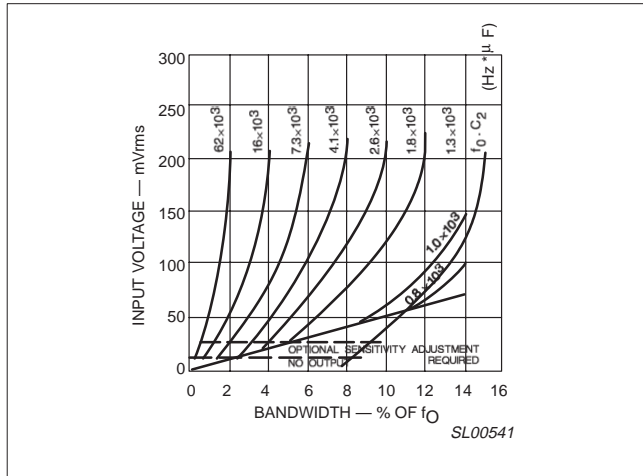

Figure 4. Bandwidth vs. input signal amplitude
2. Select the low-pass capacitor, C_2 , by referring to Figure 4, 'Bandwidth vs. input signal amplitude'. If the input amplitude variation is known, the appropriate value of $f_o \cdot C_2$ necessary to give the desired bandwidth may be found. Conversely, an area of operation may be selected on this graph and the input level and C_2 may be adjusted accordingly. For example, constant bandwidth operation requires that input amplitude be above $200mV_{RMS}$. The bandwidth, as noted on the graph, is then controlled solely by the $f_o \cdot C_2$ product (f_o (Hz), $C_2(\mu F)$).